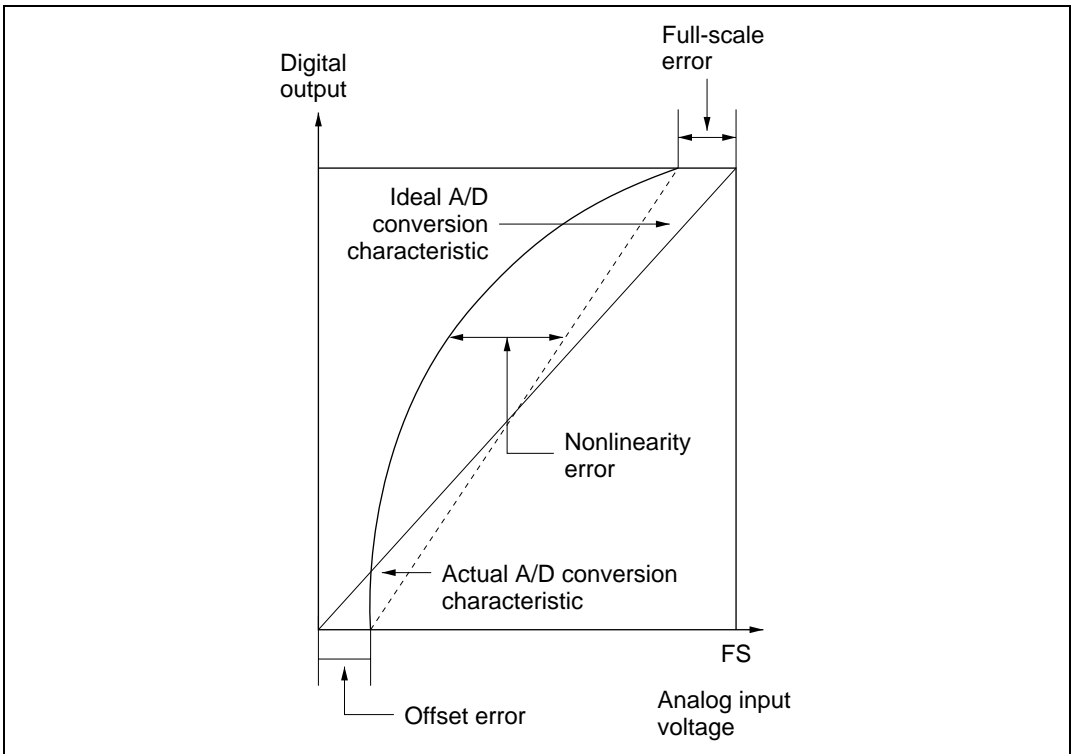

Figure 15.10 A/D Converter Accuracy Definitions (2)
- Offset error: Deviation from ideal A/D conversion characteristic of analog input voltage required to raise digital output from minimum voltage value 0000000000 to 0000000001 (figure 15.10)
- Full-scale error: Deviation from ideal A/D conversion characteristic of analog input voltage required to raise digital output from 111111110 to 111111111 (figure 15.10)